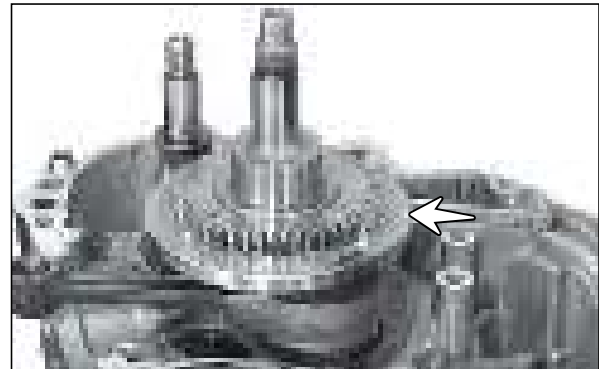

Fig. 3.158
- Pull out crankshaft assembly from the crankcase assembly LH by gently tapping it from the other side. (Fig. 3.158)